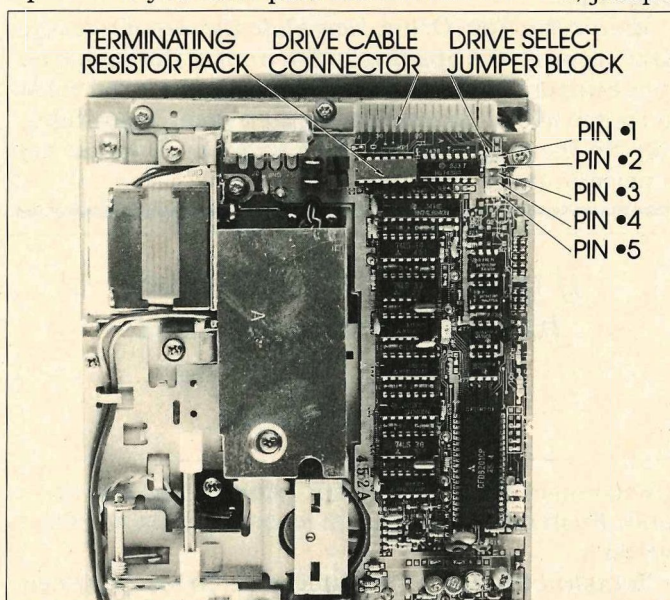

FIGURE 3: Blow-up of Top Back of Shugart SA455 Drive
**Set the Drive Select.** At the back of the drive, near the drive cable connector, look for some pins sticking up from the drive's circuit board. There will be eight or more of these pins, arranged in two parallel rows, as shown in Figure 3.